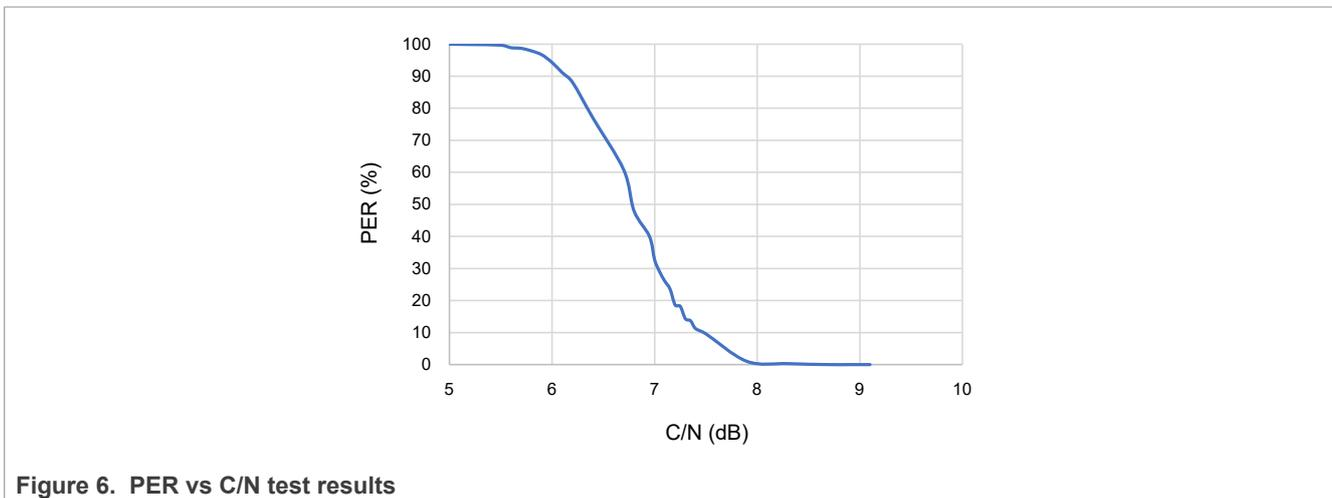

Figure 6. PER vs C/N test results
- For each channel of the desired signal, start from a C/N where PER is at 0 %, then decrease it and plot the C/N and PER values, as shown in Figure 6.
Figure 6 shows the results of the PER vs C/N test where center frequency is at 2440 MHz.